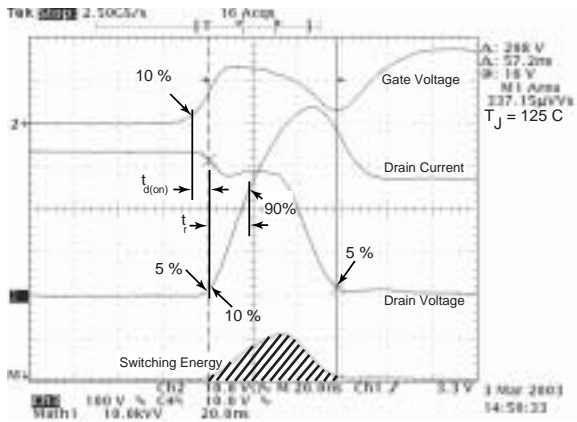

Figure 18, Turn-on Switching Waveforms and Definitions
③ See MIL-STD-750 Method 3471
④ Starting TJ = +25°C, L = 3.32mH, RG = 25Ω, Peak IL = 27A
⑤ dv/dt numbers reflect the limitations of the test circuit rather than the device itself. IS ≤ -ID27A diS/dt ≤ 700A/μs VR ≤ VDSS TJ ≤ 150°C
⑥ Eon includes diode reverse recovery. See figures 18, 20.